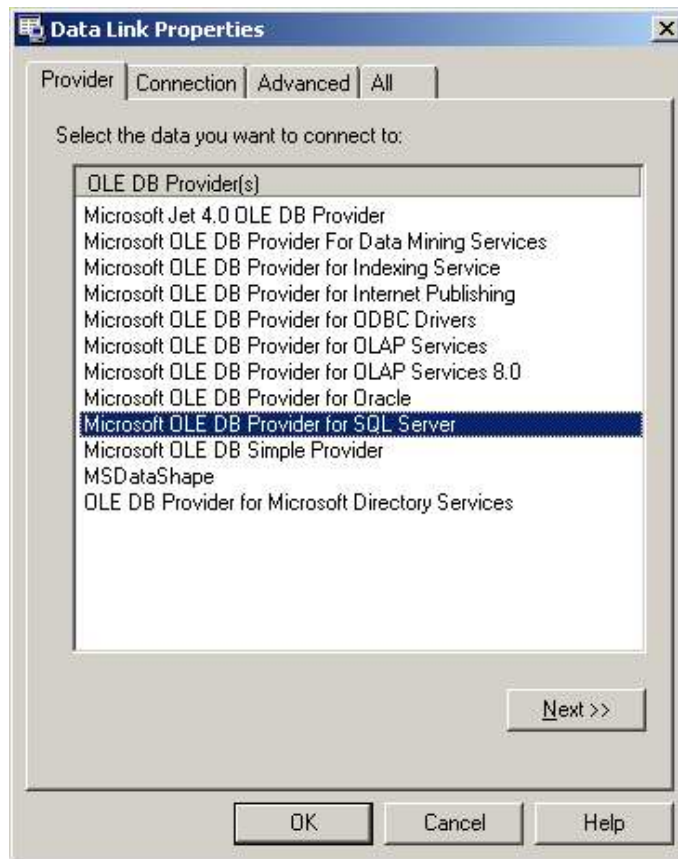

Figure C-11. Data Link Properties – Provider Tab
3. Click on the 'Provider' tab and select 'Microsoft OLE DB Provider for SQL Server' as shown in Figure C-11.